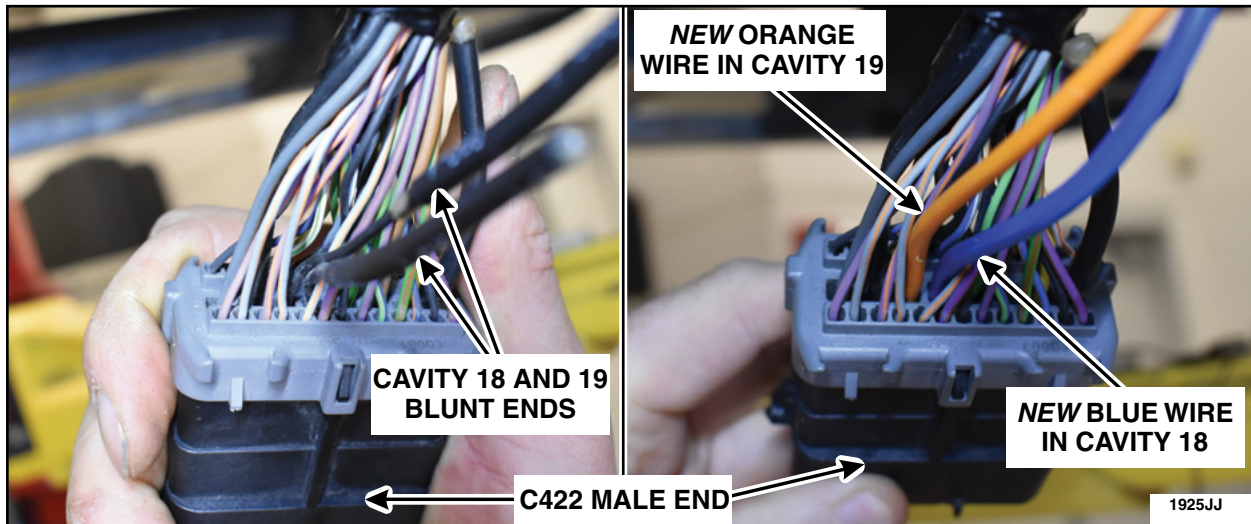

FIGURE 49
51. Remove the blunt end located in cavity 18 and 19 on the male end of C422. Install *new* blue wire into the cavity pin 18 and the *new* orange wire into cavity pin 19. See Figure 49.